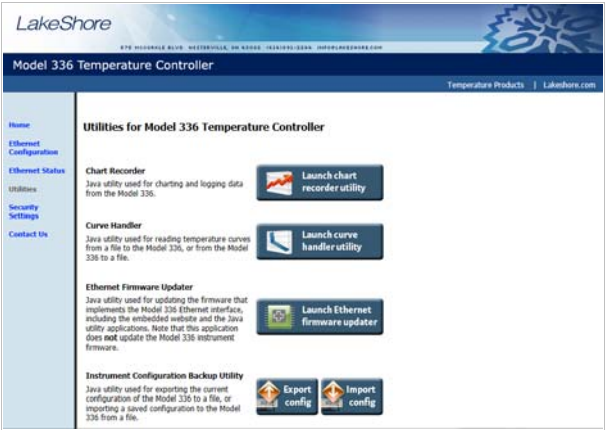

FIGURE 6-8 Utilities page
1. On the Utilities page in the Model 336 embedded website, click **Export config** (FIGURE 6-8).
1. On the Utilities page in the Model 336 embedded website, click **Import config** (FIGURE 6-8).